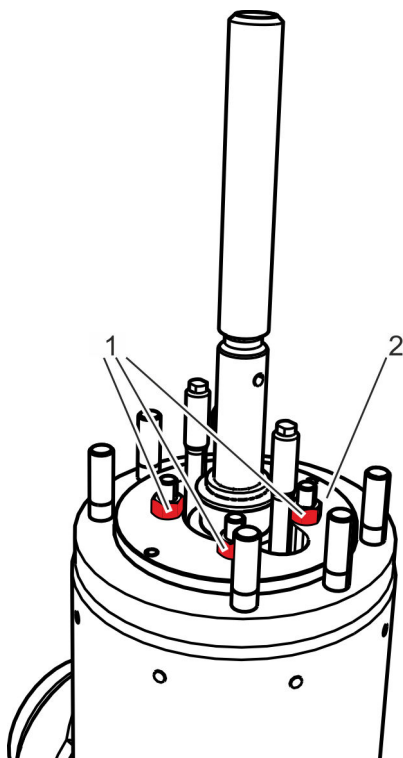

Fig. 27: Unscrewing the nuts from the clamping lid
2. → For the version with clamping lid (Fig. 27/2): Unscrew and remove the nuts (Fig. 27/1).